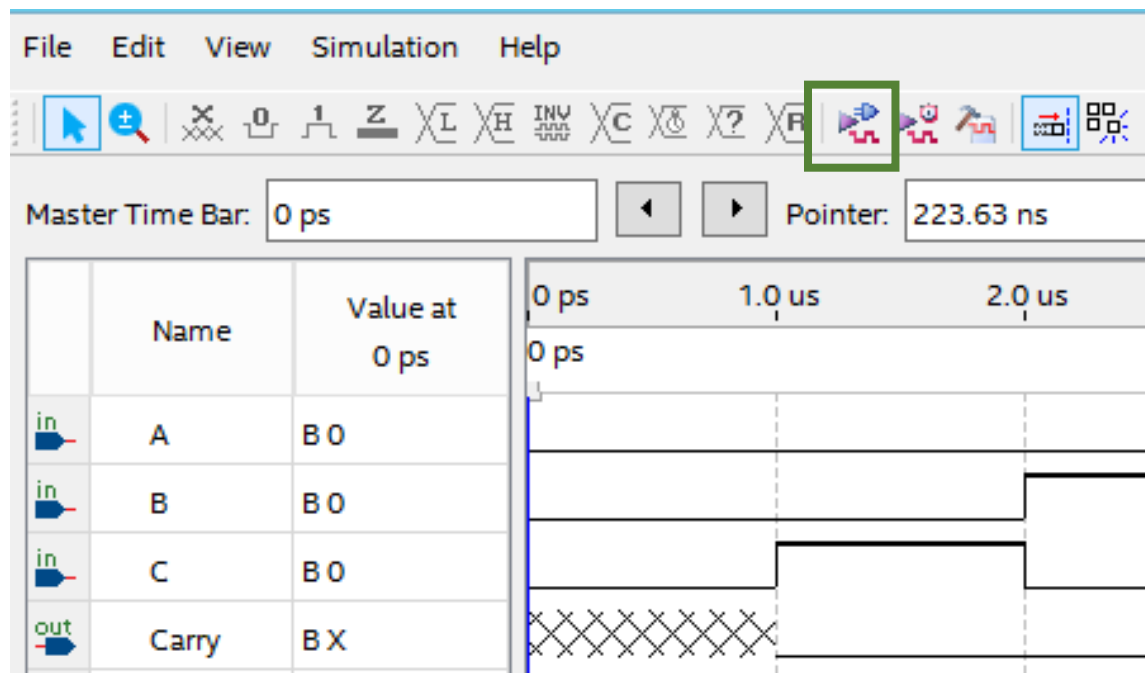

Fig 4: Click on the symbol in the green box to “Run functional simulation”
4. Now you are all set! You can go ahead and run the simulation by clicking on **Run Function Simulation** (See Fig 4.)